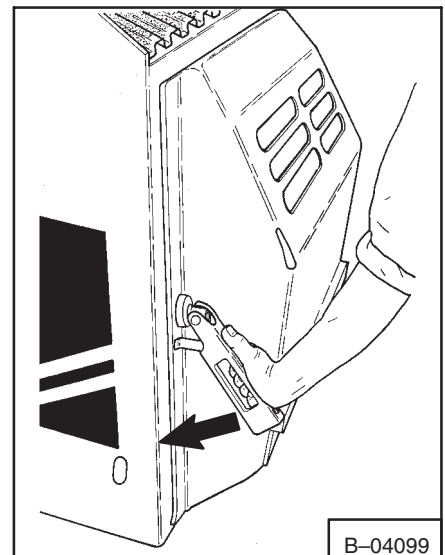

Fig. 5-48 Closing Rear Door
5. The rear door must contact the main frame at the bottom and top with the lever in the position shown in figure 5-48).